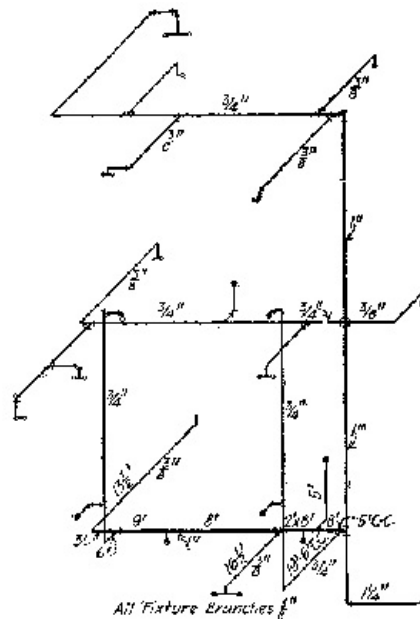

Fig. 81.—Pipe sketch.
The measurements on the piping sketch, Fig. 81, are taken from the accompanying sketch of a dwelling, and if they were to be actually put in, they would fit. The reader would do well to copy this sketch and follow the piping and check the measurements according to the plan, and note how the different risers, drops, etc., are drawn. It is not necessary in a sketch of this kind to draw to a scale. After the different measurements are the letters *C.C.*, *E.C.*, *E.E.*, *C.B.* and *E.B.*, meaning center to center, end to center, end to end, center to back, and end to back, respectively. Offsetting pipe is a very convenient way of getting the pipe or fittings back to the wall for support. To offset pipe properly and with little trouble, take a piece of scantling 2 by 4 and brace it between the floor and ceiling. Bore a few different-sized holes through it and you will have a very handy device for offsetting pipe. There is a little trick in offsetting pipe that one will have to practice to obtain. The pipe must be held firmly in the place where the pipe is to be bent. Large offsets and bends should not be made; 2 to 4 inches is as large as should be used. Larger offsets that are required should be made with fittings. Always make the offsets true and have the ends perfectly straight. Before putting a piece of pipe permanently in place, always look or blow through it, to ascertain if its bore is obstructed or not. Sometimes dirt or slag will collect and cause stoppage.
**Reading the Pipe Sketch.**—Vertical lines represent vertical pipes (see Fig. 81). Horizontal lines represent horizontal pipes running parallel to the front. Diagonal lines represent horizontal pipes running from back to front. Any line that is drawn perpendicular to any other line stands for a horizontal pipe. A diagonal line separating a vertical line or horizontal line or set of lines represents a different horizontal plane. With this explanation the sketch will be made clear to one after drawing it. The reader should now take each measurement and check it on the plan. This is easily done by using a scale rule. The height of the ceiling is  $8\frac{1}{2}$  feet on the first floor, the second floor is 8 feet. The first floor joists are 10 inches, the second floor joists are 9 inches. An outlet is indicated by a small circle. In the piping sketch, this circle is connected with the riser or drop by a horizontal line. At the junction of these two lines a short perpendicular line is drawn, and indicates the direction of the outlet.